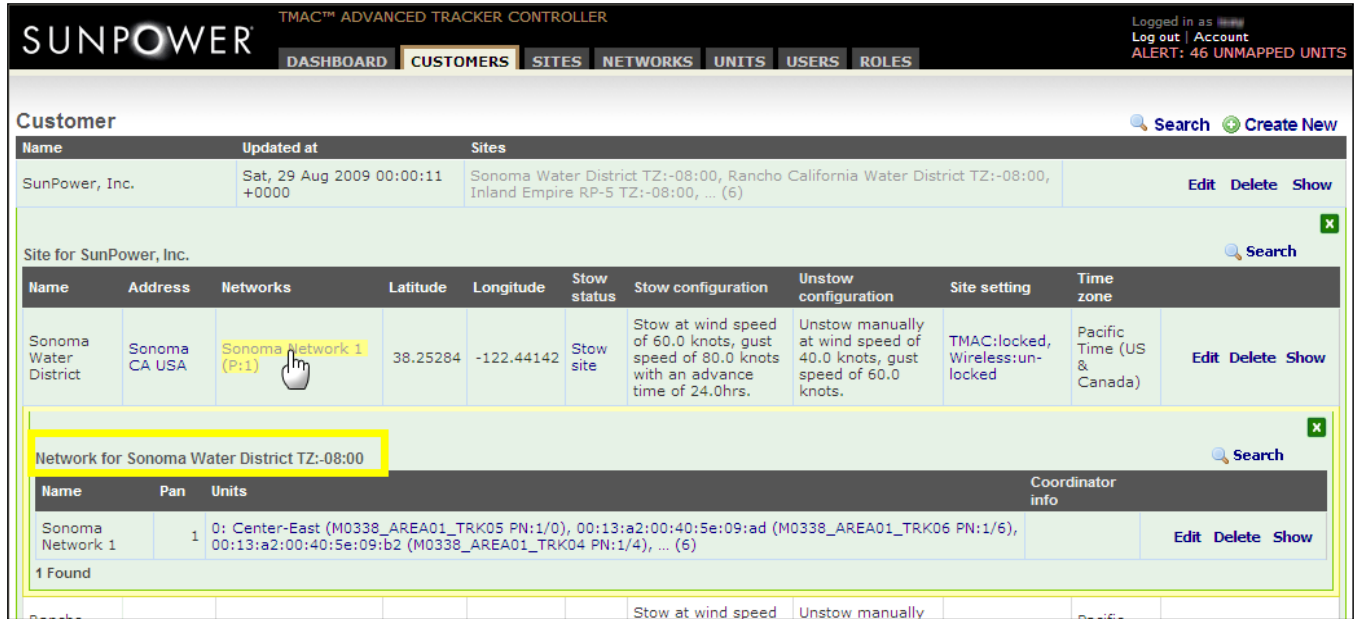

Fig. B22
3. Locate the site under the **Name** column and then click the network link for the site under the **Networks** column. The **Network for [Site name]** window appears (Fig. B22).